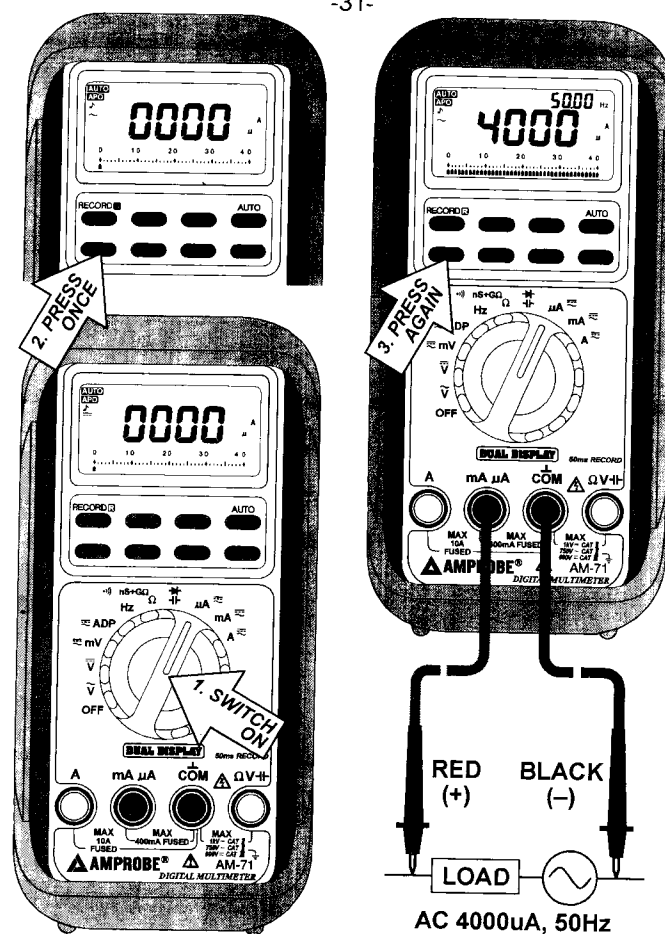

FIG 12. μA , mA, A FUNCTIONS
- 4) Connect the test leads as shown in FIG 12 and observe the digital display